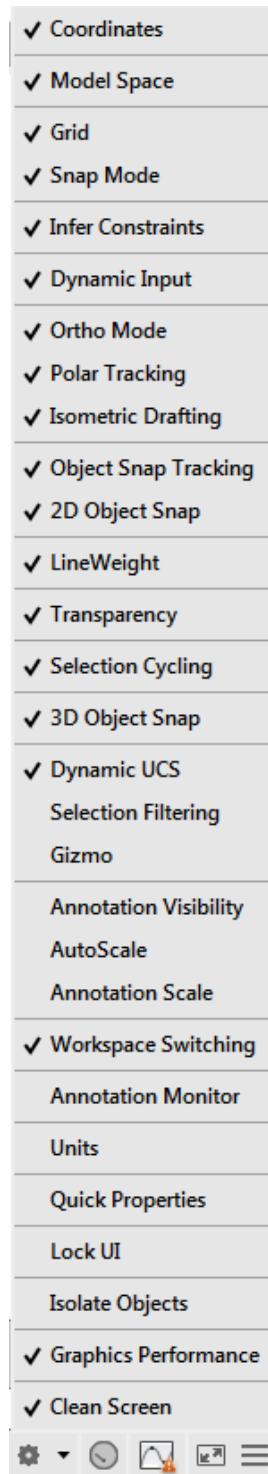

Figure Step 15
Step 15 Click the Hamburger icon located on the far right side of the Status bar. This will display the Customization menu. Enable or disable each item in the menu until it matches the figure. (Figure Step 15)